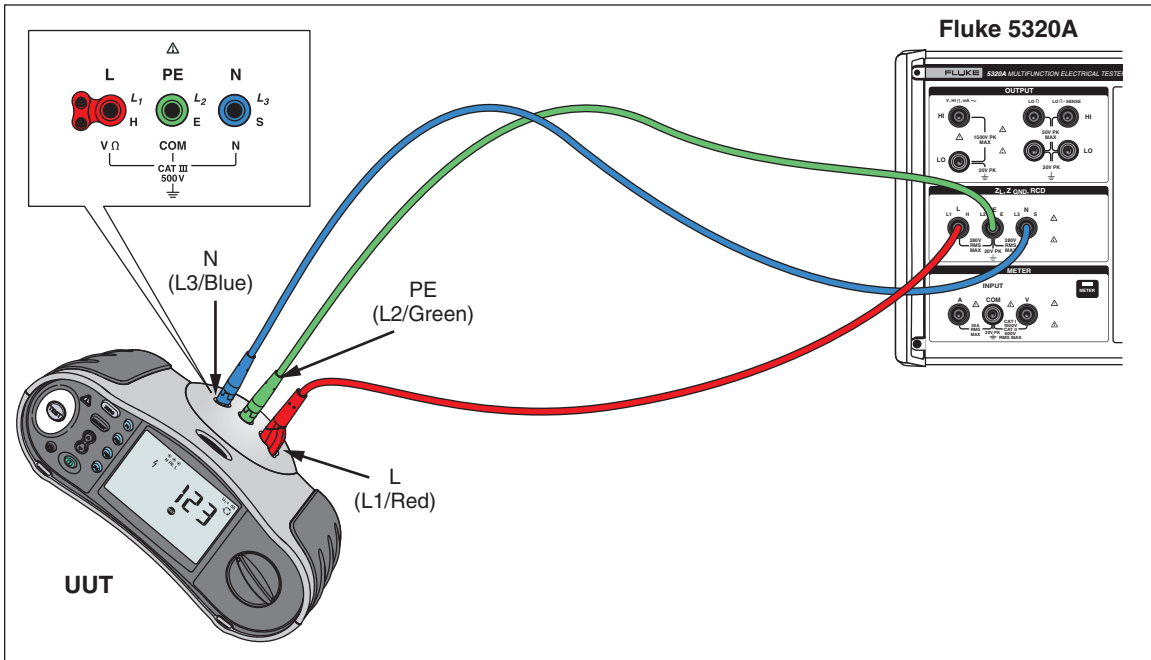

Figure 9. Loop Zi Hi Current Line Impedance and RCD Tests
1. Connect the test leads to the UUT and 5320A as shown in Figure 9.
1. Connect the UUT's L, PE and N to the 5320A as shown in Figure 9.
1. Connect the UUT's L, PE, and N to the 5320A as shown in Figure 9.